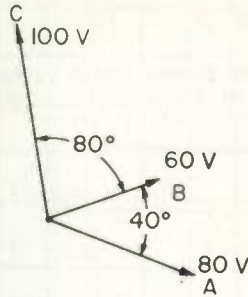

Fig. 36
- (1) One that is less than 0° .
- (2) An angle greater than 90° .
- (3) An angle greater than 180° .
- (4) An angle considered as formed by a line rotating clockwise.
25. Three phasors, A , B , and C , are shown in Fig. 36. Phasor C
26. With reference to phasors *A* and *C* in Fig. 36, we can also say that
- (1) phasor *A* leads phasor *C* by 60° .
(2) phasor *A* lags phasor *C* by 60° .
(3) phasor *A* leads phasor *C* by 240° .
(4) phasor *A* lags phasor *C* by 240° .
27. What is the resultant voltage of phasors *A* and *B* in Fig. 36? (Ignore phasor *C*.)
- (1) 121 (2) 125 (3) 132 (4) 138 ?
28. In Fig. 36, what is the angle of lead or lag between the resultant of phasors *A* and *B* and phasor *A*?